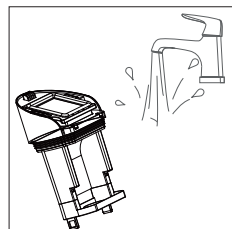

Fig. 18 – Cleaning the cap
- ▶ Clean the cap under running water (see Fig. 18).